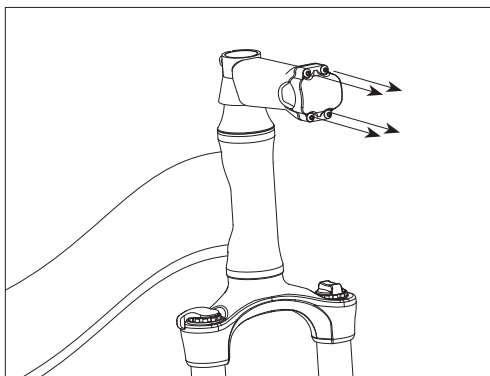

Fig. 15: Remove the stem clamp.
1. Using the provided hex wrench, remove the two screws (or four, depending on model) holding the stem clamp in place (Fig. 15).